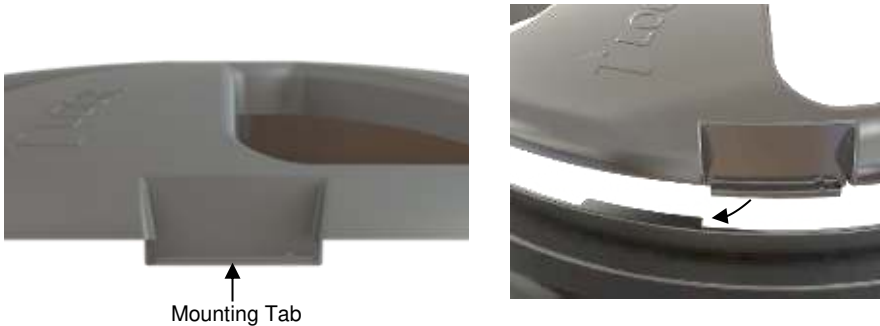

Figure 5: Safety Barrier Install
- 7.) Locate the four mounting tabs on the safety barrier. Insert the safety barrier into the locking tabs on connector flange. (Fig 5)